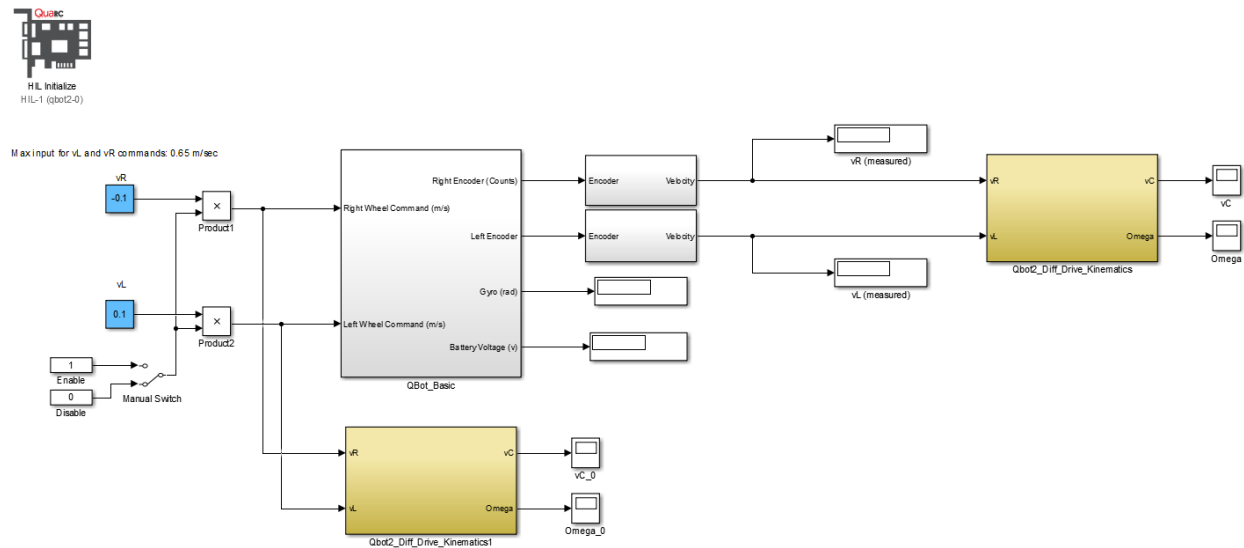

Figure 2.1: Snapshot of the controller model “QBot 2_Diff_Drive_Kinematics.mdl”
The Simulink model for this exercise is “QBot 2_Diff_Drive_Kinematics.mdl” the snapshot of which shown in Figure 2.1.
1. Wait 5 seconds until the QBot 2 has fully initialized, and then enable the movement of the robot using the manual switch shown in Figure 2.1.